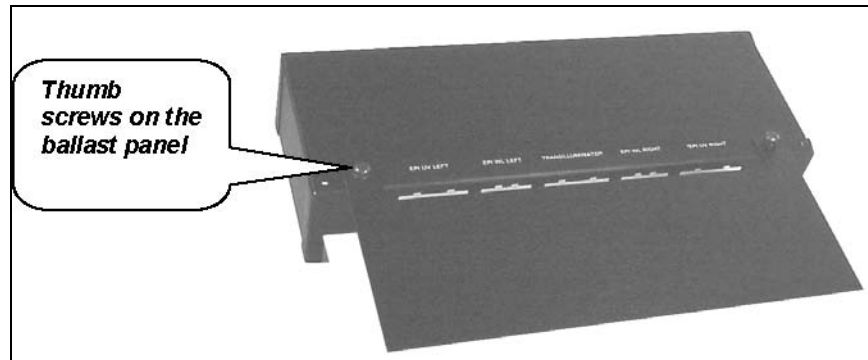

Figure 3.18
1. Remove the access panel mounted on the ballast panel by unthreading the two thumbscrews (Figure 3.18).